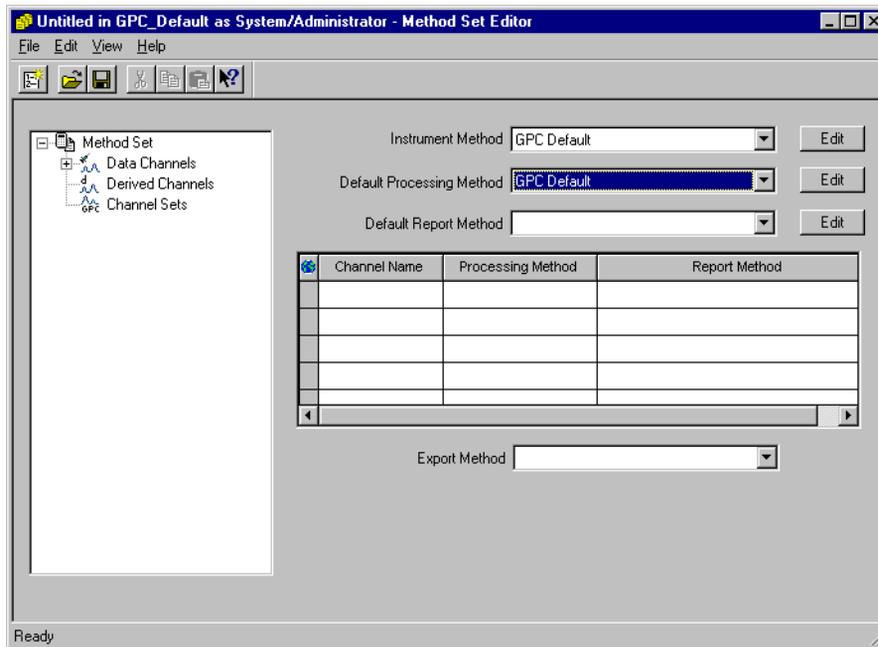

Figure 2-22 Method Set Editor
2. You are prompted to use the wizard to create a new method set. Click **No**. The Method Set Editor appears (Figure 2-22).